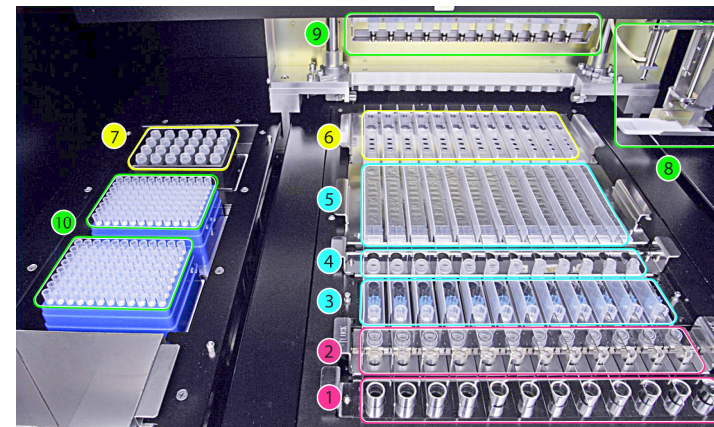

Figure 1: The «ELITE InGenius» loading area
An overview of the «ELITE InGenius» instrument is shown in Figure 1.
Figure 1 shows: Primary tube rack position (1), Extraction tube and cap rack position (2), Tip rack position (3), Elution tube rack position (Elution tube) (4), Extraction cartridge rack position (5) and PCR cartridge rack position (6), PCR and Internal Control reagent block (inventory manager) position (7), sample and reagent dispensing (8, 9), the waste box (left bottom) and tips positions (10).
- To confirm that sufficient reagents for the number of tests selected are placed in the inventory manager position 7 (cf. page 10, Figure 1) as indicated on the screen, press the “Next” button.
- Place sufficient Tips racks in position 10 (cf. page 10, Figure 1).
- Place the PCR cassettes indicated in position 6 (cf. page 10, Figure 1).
- Place the Extraction cartridge cassette(s) indicated in position 5 (cf. Page 10, Figure 1).
13. Place the “Elution Tubes” into Elution Tube Rack, indicated in position 4 (cfr. page 10, Figure 1).
15. Place the amount of “Tip package” indicated in position 3 (cfr. page 10, Figure 1).
17. Place the “Extraction Tubes” indicated in position 2 (cfr. page 10, Figure 1).